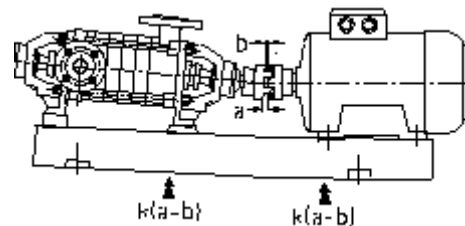
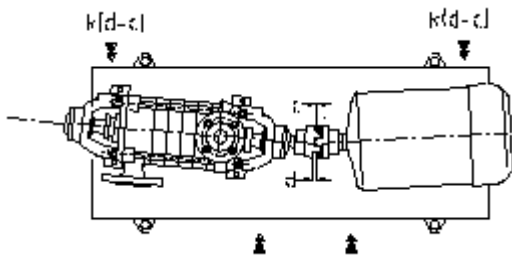

Figure 5: Angular misalignment in vertical plane and its correction
Figure 7: Angular misalignment in horizontal plane and its correction.
2.Angular Misalignment (Figure 5- Figure 7).